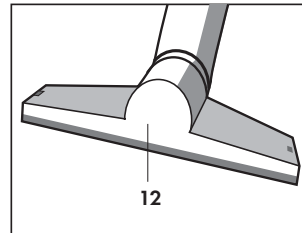

Fig. 12
MULTIPURPOSE BRUSH (Fig. 12)
Before cleaning fitted carpets, discharge any condensate by pressing the red button (10) on the handle (9) (Fig. 12).